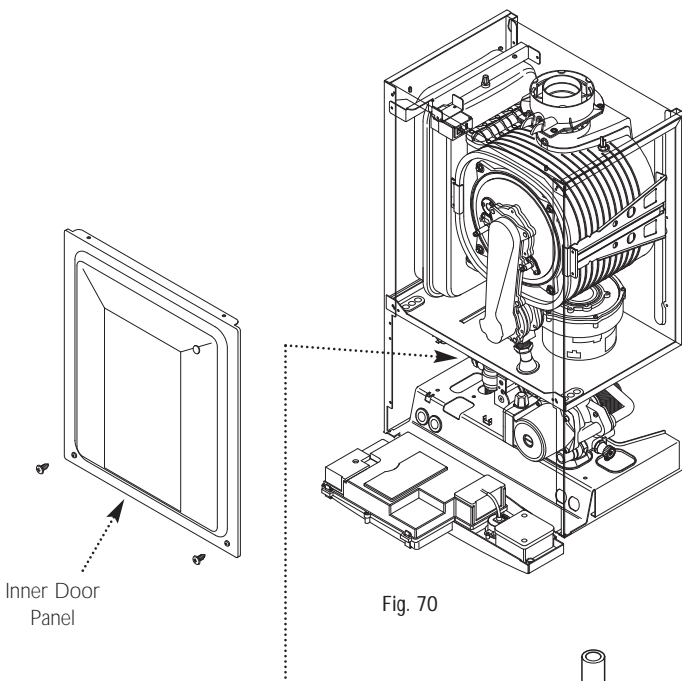

Fig. 70
4. Remove the screws securing the inner door panel. Lift the panel slightly to disengage it from the studs on top of the case (Fig. 70).